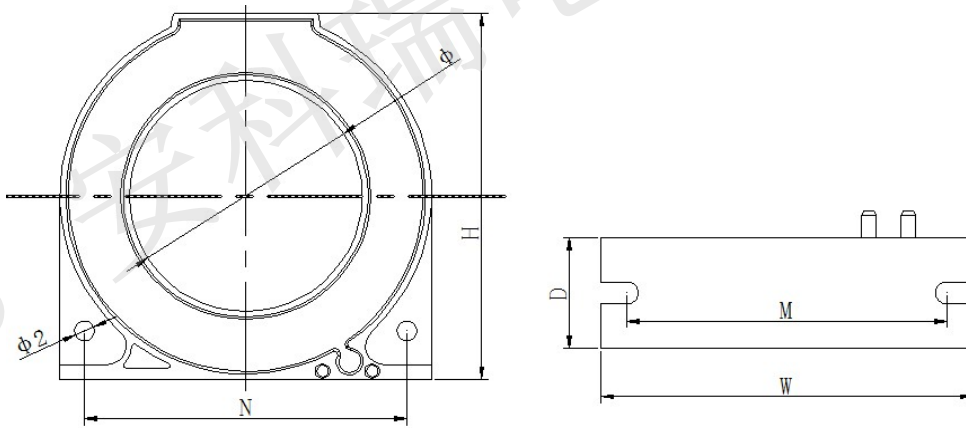

FIG. 12 External dimensions of leakage current transformer
5.3.4 The external dimensions of the leakage current transformer are shown in Figure 12 and Table 7 (unit: mm) :